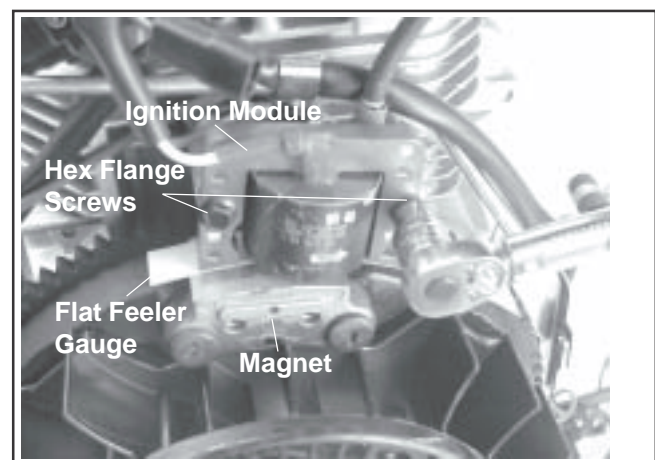

Figure 11-28. Installing Ignition Module.
2. Insert a **25 mm (0.010 in)** flat feeler gauge or shim stock between the magnet and ignition module. See Figure 11-28.